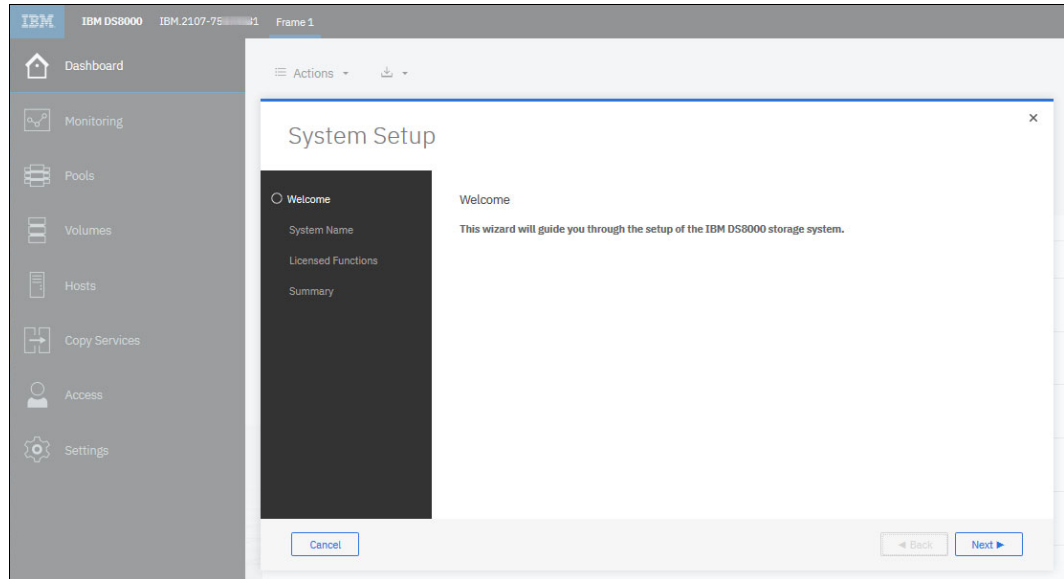

Figure 7-1 System Setup wizard including Licensed Functions activation
- If this machine is new, a System Setup wizard window opens automatically that guides you through the initial setup and configuration tasks, as shown in Figure 7-1.